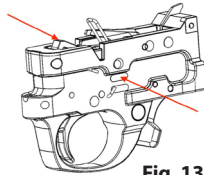

Fig. 13.2
- The trigger must be lubricated periodically for proper maintenance and operation (Fig 13.2)